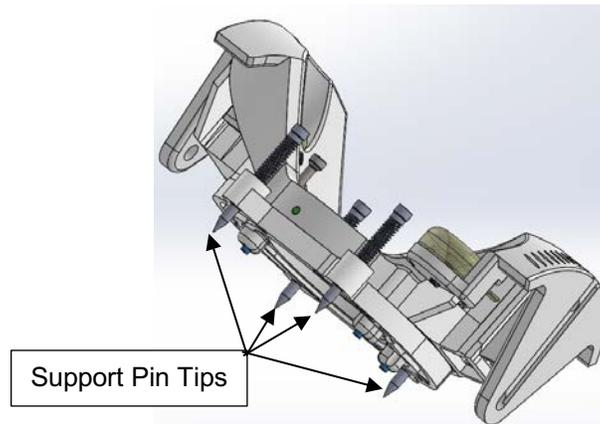

Figure 6: SMARTFrame Array Scalp Mount Base
2. The Scalp Mount Base has three inner screws and four support pins. The support pins have sharp tips. **See Figure 6.** They have small protective tubes covering them. Remove the tubes before proceeding.